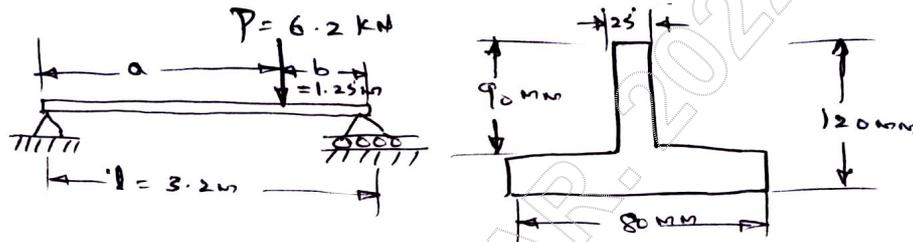

Fig.Q7(b) (10 Marks)
- b. Determine the maximum tensile stress  $\sigma_t$  and maximum compressive stress  $\sigma_c$  due to the load P acting on the simple beam AB as shown in Fig.Q7(b). Find the value of b for which tensile and compressive stress will be largest. What are these values?